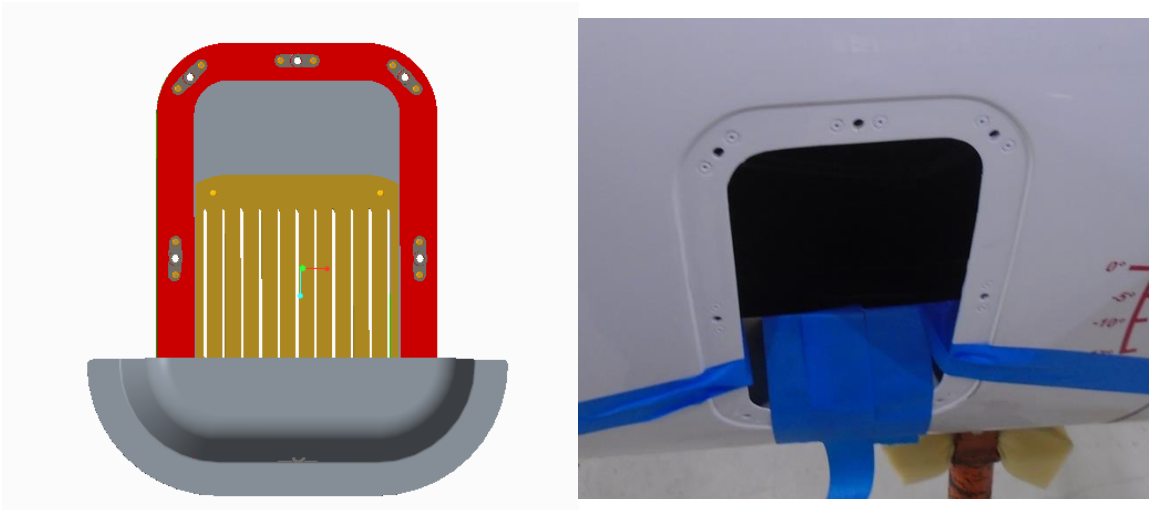

Figure 17 – F3 Tail Cone Vent Waterdam
- 2) Bond the AC-02158 Vent Waterdam in the tail cone as described and shown on the drawing. See Figure 17.